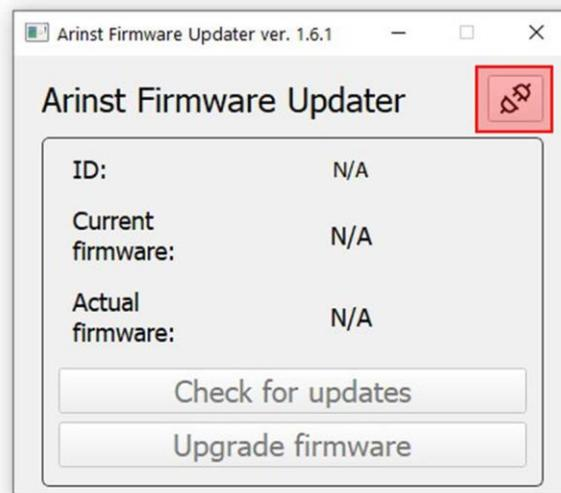

Figure A2.1 - Connecting the device to a PC
2.3. Press the button ¹ to connect the device to your PC (Figure A2.1).